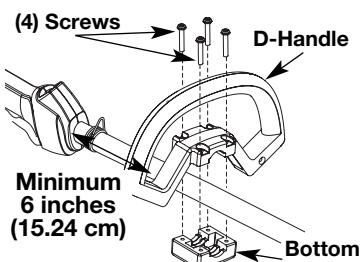

Fig. 1
2. Place Cub handle over the shaft housing and onto the bottom clamp (Fig. 1). Place it a minimum of 6 inches (15.24 cm) from the end of the shaft grip.